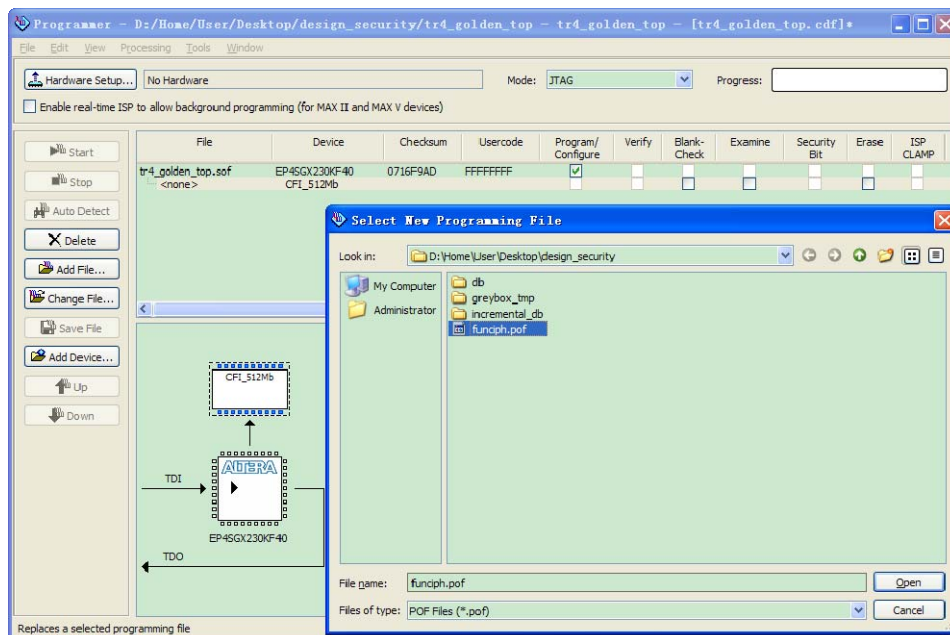

Figure 3-19 Adding POF for Flash Programming Device
9. Select and right-click the device name. Click **Change File**. The **Select New Programming File** dialog box appears as shown in Figure 3-19.